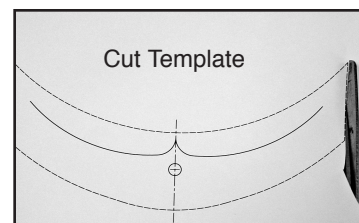

Figure 3
3. Cut the Fender Tip Template on the line. (Document 10-110676-000 and Scissors) **Figure 3.**